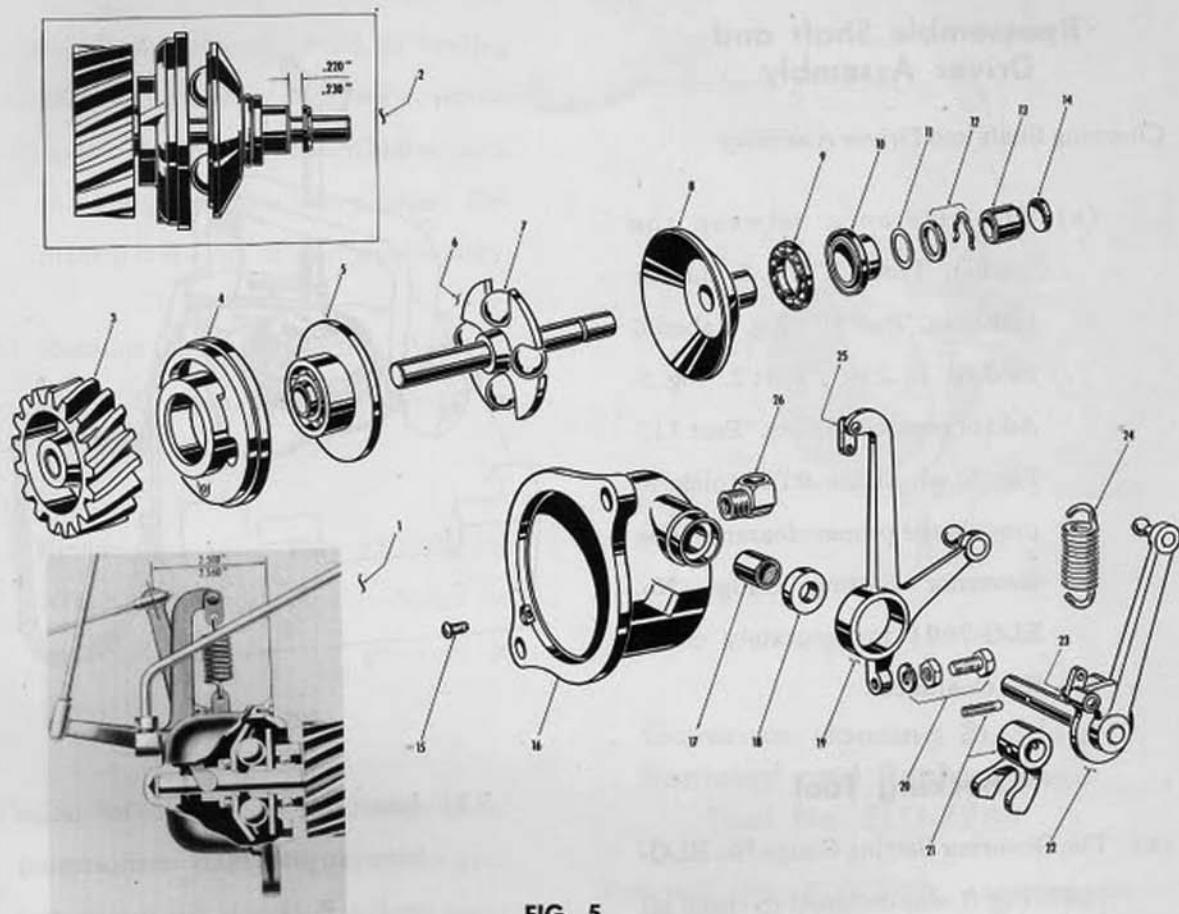
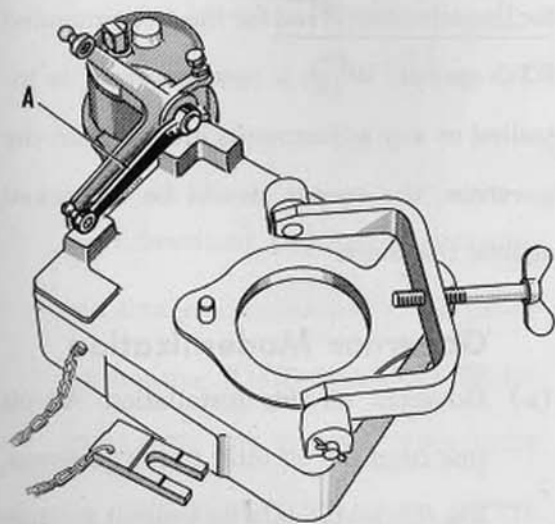

FIG. 5
FIG. 11
When the throttle control rod is moved, it actuates the inner governor arm, which increases the tension on the governor spring. The governor spring opens the carburetor throttle. The balls inside the governor, "Part 1" Fig. 5, tend to close the throttle. The governor operation is to maintain a balance between these two forces. The spring opening the throttle allows more fuel to the engine, increasing the engine speed. As the engine speed increases, the speed of the governor drive shaft also increases, and gives more inertia or centrifugal force to the governor balls. This greater force in the balls overcomes or equals the tension of the governor spring, thus closing the throttle until a balance is achieved by the force of the balls tending to close the throttle and the spring trying to open the throttle.
2. Remove the shaft and driver unit from the governor body, "Part 2," Fig. 5. This is accomplished by removing the screw, "Part 15," Fig. 5, and pulling the body and driver unit apart.
- (a) Remove the hair pin clip, "Part 12," Fig. 5, and disassemble the parts.
- (b) Check the balls, "Part 7," Fig. 5, for wear, flat spots, pitting, etc. Replace them if not in good condition. Discoloration of the balls is a chemical reaction and does not affect their serviceability.
- (c) Check the conical shaped race, "Part 8," Fig. 5, for grooves or wear. Remedy: Replace.
- (d) Gear Replacement, "Part 3," Fig. 5. Press gear on shaft until flush with end of the shaft.
- (e) Check thrust bearing assembly, "Part 9," Fig. 5. If it is not in good condition, replace.
- (a) The clearance between the washer, "Part 12," Fig. 5, and the fork base, "Part 10," Fig. 5, should be .220" to .230", "Part 2," Fig. 5. Add or remove spacers, "Part 11," Fig. 5, which are .010" thick, to provide the proper clearance. Use Governor Setting Gauge No. ELO-7691 to accurately check the clearance.
Fig. 5. A corroded, pitted, or binding shaft will interfere with free governor operation. Remedy: Clean and smooth the shaft with fine emery paper. Replace if it is loose or worn appreciably.
- (b) Examine the needle bearing, "Part 17," Fig. 5. Replace if they show wear or are faulty.
- (c) Replace the seal, "Part 18," Fig. 5. NOTE: This seal should always be replaced whenever the governor is disassembled.
- (e) Examine the governor shaft bushing in the end of governor housing, "Part 13," Fig. 5. Replace if it is scored or worn. Use the following tools.
CAUTION: The thrust washer, "Part 14," Fig. 5, frequently drops out while removing the bushing. Be sure that it is in place when the new bushing is pressed in.
the "Go and No Go" gauge as illustrated in Fig. 11. The center of the governor arm in wide-open position should be, in a horizontal plane, 2.50" to 2.56" from governor body face, Fig. 5. If the gauge cannot be inserted, the clearance is insufficient. If only the first step on the thick end of the gauge can be inserted, the clearance is satisfactory. If the second step of the thick end of the gauge can be inserted, the clearance is excessive.
(d) If the clearance is excessive, remove the governor from the tool and lay the governor arm across the bosses at end of the tool body as illustrated in Fig. 11. If the clearance is insufficient, turn the governor upside down from position shown in Fig. 11. Then with light hammer, strike the center of governor arm, "A," Fig. 11, so as to bend it slightly. Then recheck as indicated in step (c) above, until the proper adjustment is obtained.